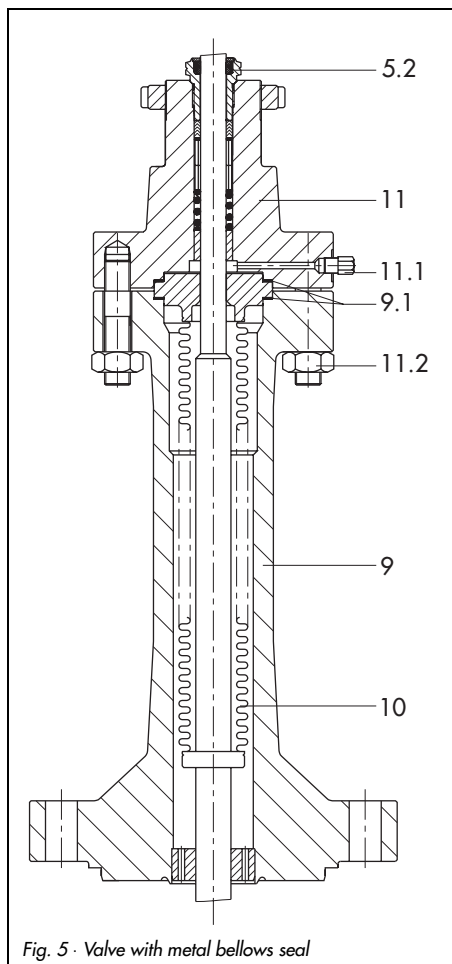

Fig. 5 · Valve with metal bellows seal
Legend to Fig. 5
The metal bellows (10) can only be replaced as complete bellows seal together with the plug stem. To do this, proceed as described in section 5.1.2 (Fig. 5).